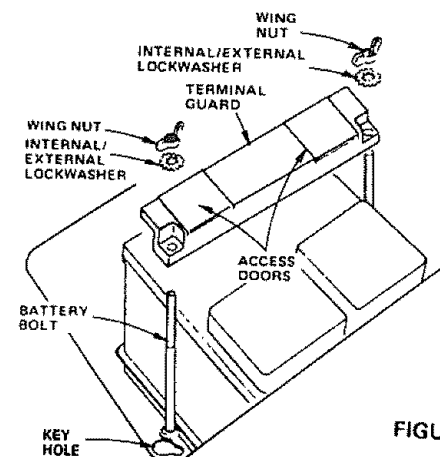

FIGURE 5
- f. Using the key hole on one side of the battery support (Fig. 5) slide battery bolt into frame key hole (head of bolt down). Fasten the battery bolt to the terminal guard using internal/external lockwasher, wing nut, (shown full size on pg. 6) as shown in Fig. 5.
- g. Assemble the remaining battery bolt to other side of battery support and fasten terminal guard to it with remaining internal/external lockwasher, wing nut, (shown full size on pg. 6) as shown in Fig. 5.